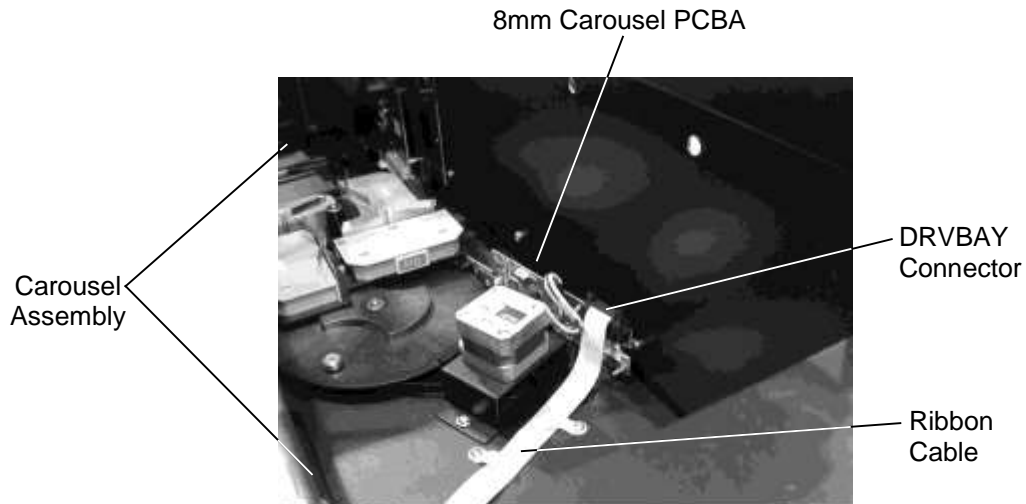

Figure 7-7 Carousel Assembly in the RLS
5. Disconnect the ribbon cable from the DRV BAY connector on the 8mm Carousel PCBA. See Figure 7-7. Slip the ribbon cable out from under the two plastic retainer clips.
4. Tuck the ribbon cable under the plastic retainer clips and reconnect it to the DRV BAY connector on the 8mm Carousel PCBA. See Figure 7-7.